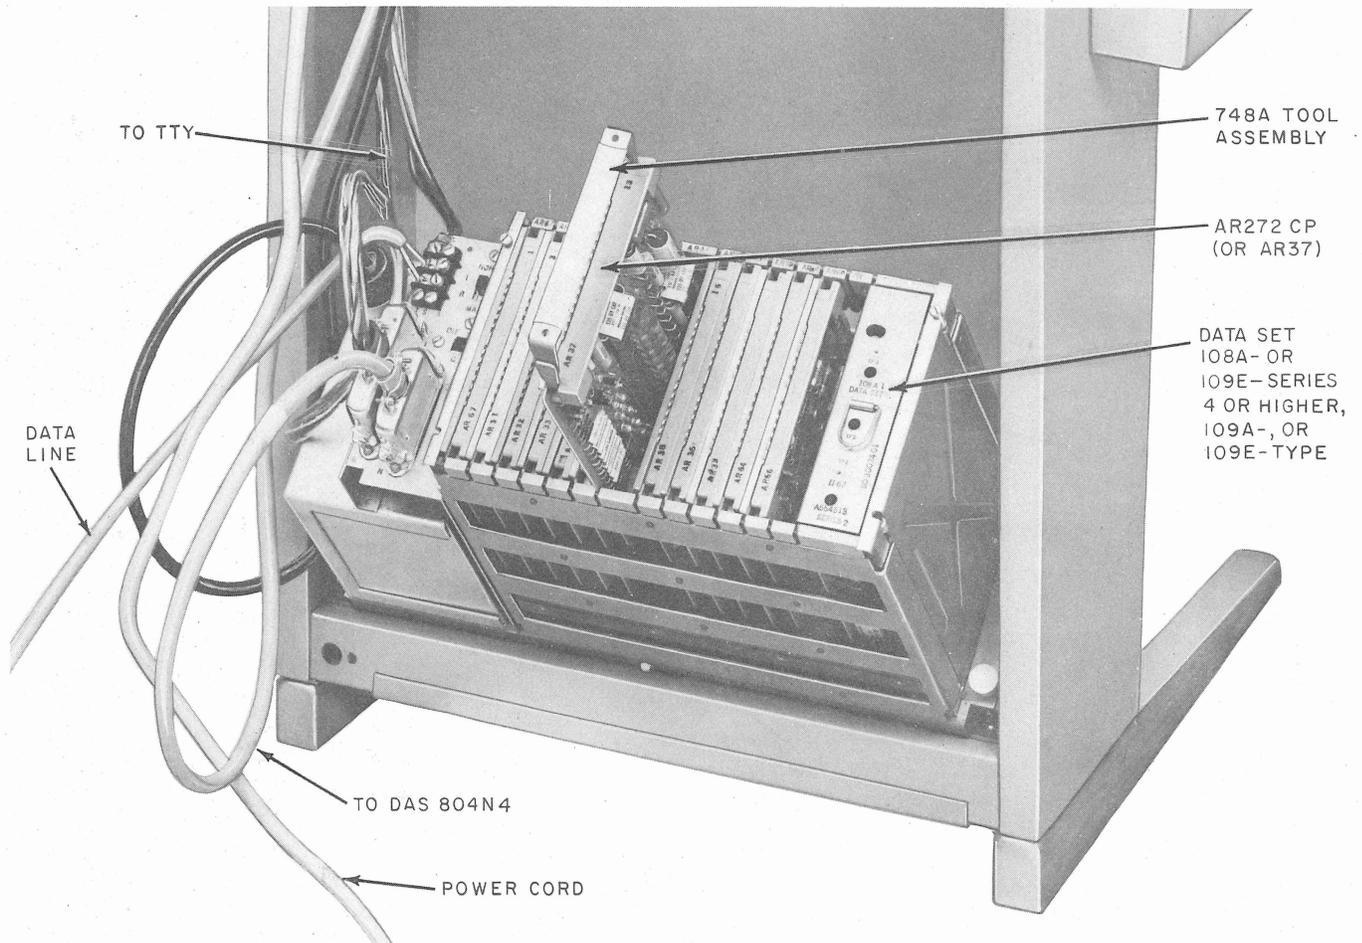

Fig. 1—DAS 820B-Type in 33-Type TTY, Maintenance Position
- (1) Rotate latch counterclockwise. This allows the DAS 820B-type to pivot on the 91A bracket.
- (2) With both hands, tilt the 820B-type gently towards the rear of the station (Fig. 1).